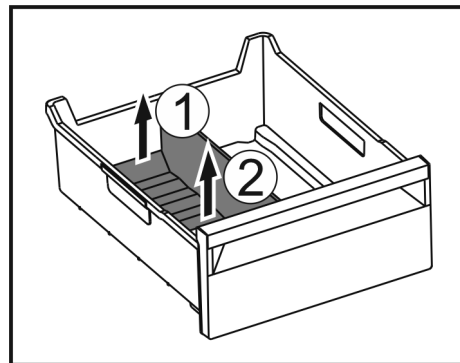

Fig. 78
- ▶ Lift the rear part of the ice compartment divider. Fig. 78 (1)
- ▶ Remove the ice compartment divider upwards. Fig. 78 (2)